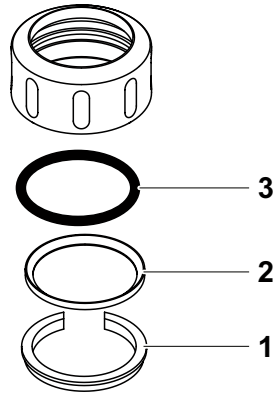

Fig. 6-2 Dismantling the coupling ring
1	Remove the retaining ring (pos. 1 in Fig. 6-2).